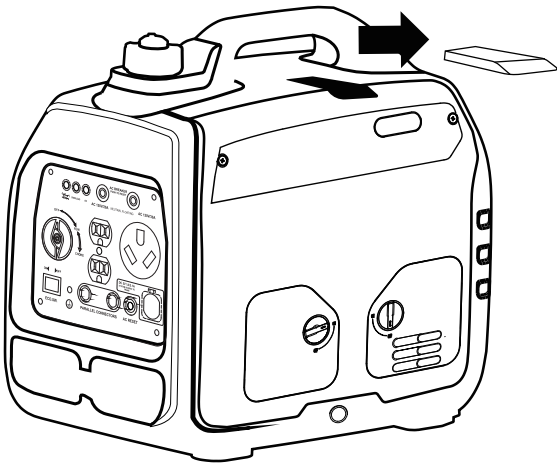

Figure 18: Slide off spark plug cover
3. Slide the spark plug access cover off the housing (see Figure 18).